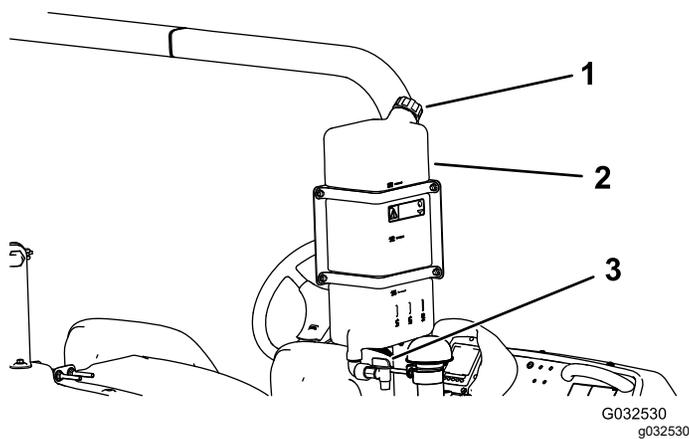

Figure 26
- To fill the tank, unscrew the cap at the top of the tank, fill the tank with fresh water, and install the cap (Figure 26).
- To open the fresh-water tank spigot, turn the lever on the spigot (Figure 26).